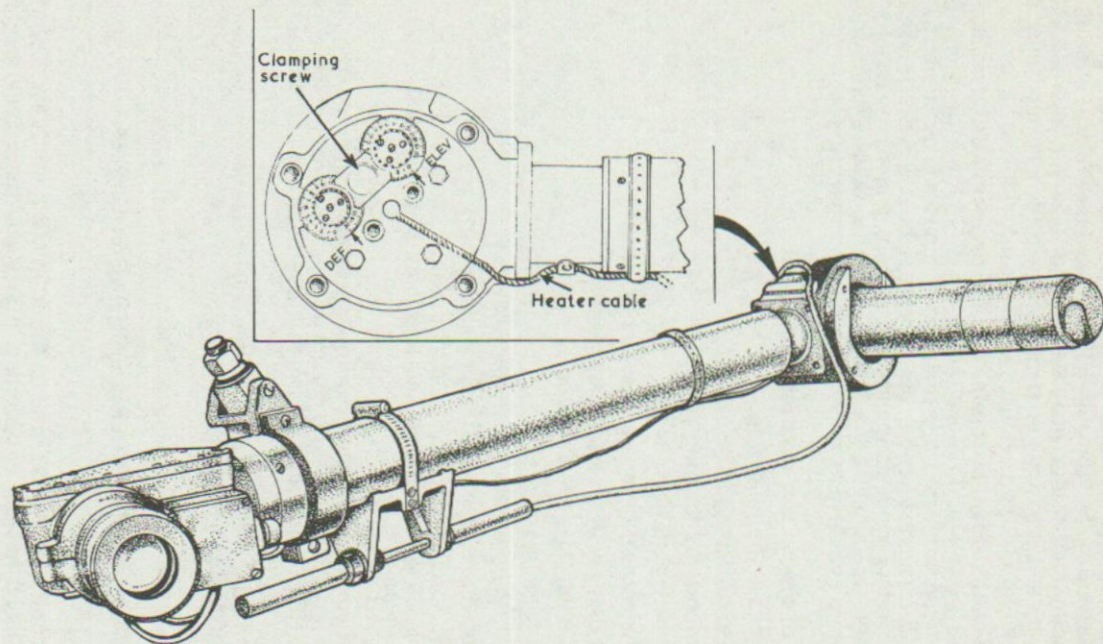

Fig 42 - Sight unit, AV, No. 70, Mk 1
- a. (1) *Sight unit, AV, No. 26, Mk 1* – This is the original sight unit.
- (2) *Sight unit, AV, No. 60, Mk 1* – This is a No. 26, Mk 1 sight unit with a modified graticule adjuster fitted as a modification.
- (3) *Sight unit, AV, No. 70, Mk 1*. This is a No. 26, Mk 1 or No. 60, Mk 1, having the modified graticule adjuster but, in addition, an extended range graticule. (See Figs 42 and 30.)